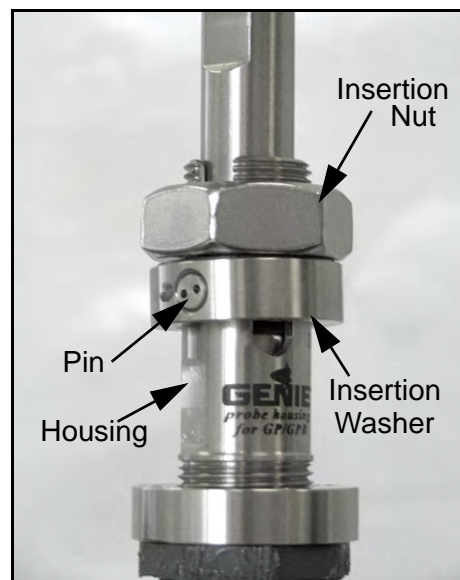

Figure 19: Threading the Insertion Nut
- Thread the insertion nut down by hand, lowering the probe until the insertion washer pins slide to the bottom of the first vertical slot (see *Figure 19* below).